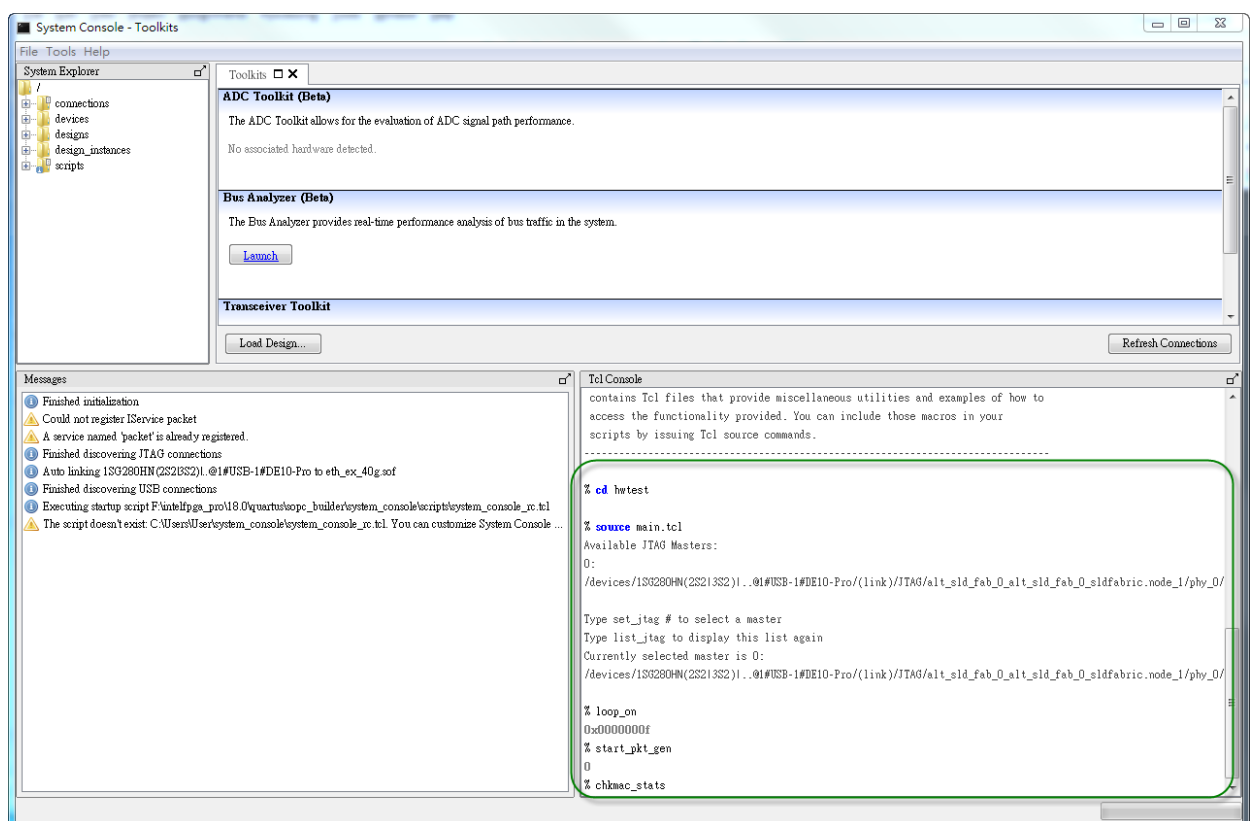

Figure 9-11 Launch the System Console for Ethernet 40G Demo
6. In the Tcl Console pane, type “cd hwtest” to change directory to the folder: ./alt_s40/hardware_test_design/hwtest. Then, type “source main.tcl” to open a connection to the JTAG master as shown in **Figure 9-11**.